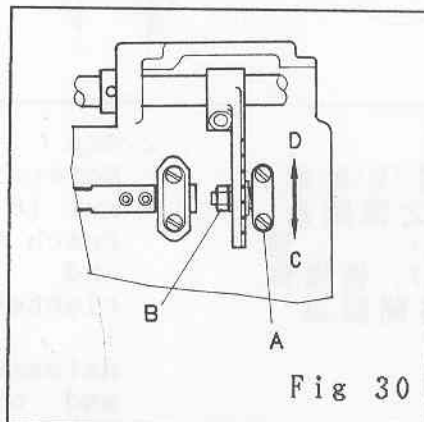
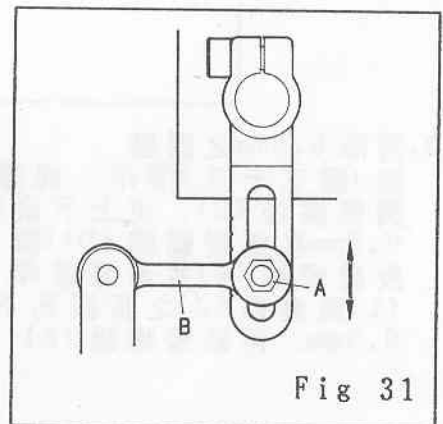

Fig 30
Fig 31
2. Release nut (B) on connector (A), (Fig. 30).
3. Move connector (A) back and forth for more or less feeding length, toward C diliation reduce feeding length.
4. For micro adjustment, release nut (A) and move connector (B) upward for longer and downward for shorter feeding length respectively.(Fig. 31)